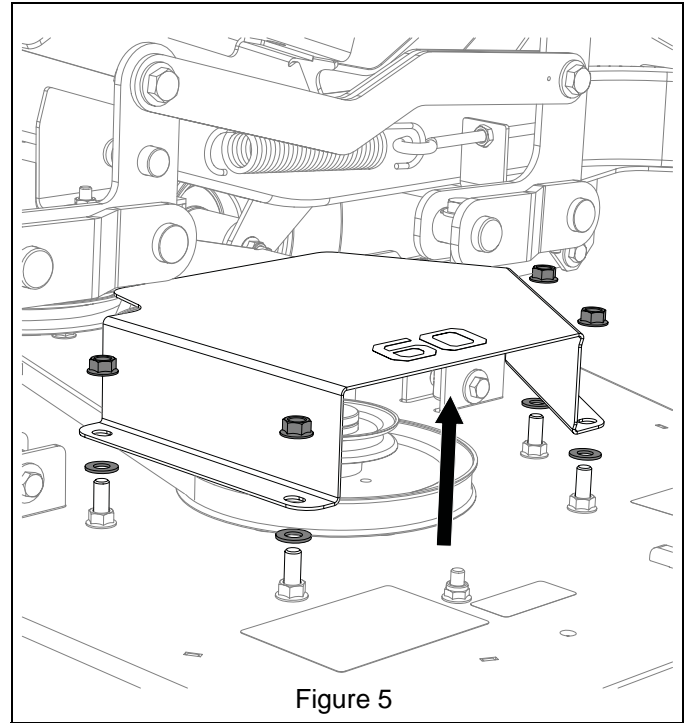

Figure 5
- Remove 3/8" x 2" hex bolt and nylon locking flange nut retaining discharge chute bracket and remove discharge chute assembly. Retain all parts for operation without bagger. See Figure 5.
- Remove four 3/8" locking nuts from right belt cover and remove cover and four flat washers. Retain all parts for operation without bagger. See Figure 5.